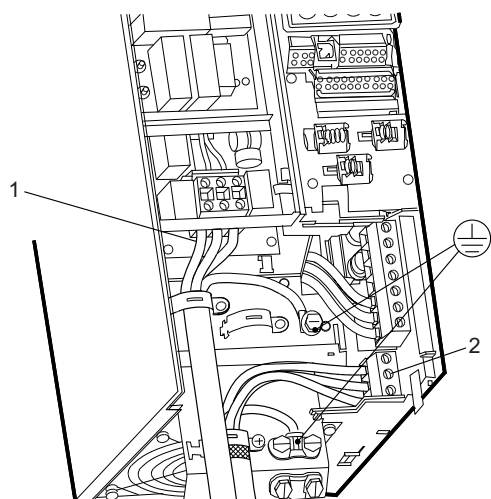

Fig. 25 Mains and motor connection, B3
1. Connect the earth conductor to terminal 95 (PE). See figs 25 and 26.
1. Connect the earth conductor to terminal 99 (PE). See figs 25 and 26.
2. Connect the motor conductors to terminals 96 (U), 97 (V), 98 (W).